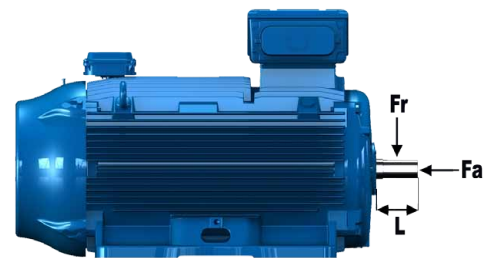

Figure 25 - Radial and axial thrust on motor shaft
The figures given in the tables below for radial thrusts take into consideration the point upon which the load is applied, either at the centre of the shaft (L/2) or at the end of the shaft (L), figure 25.